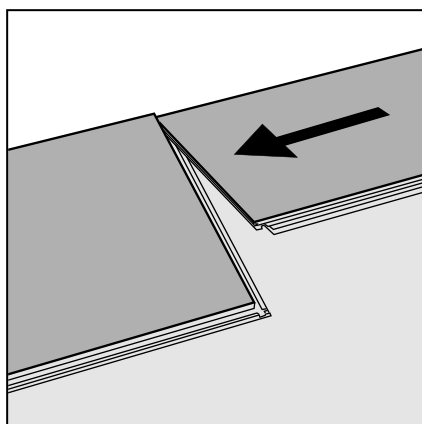

Figure 47 Second plank, first row
- > Place the short end of the second plank close to the corresponding short end of the previous plank. Carefully fold it down with a single action movement; (Fig 47).